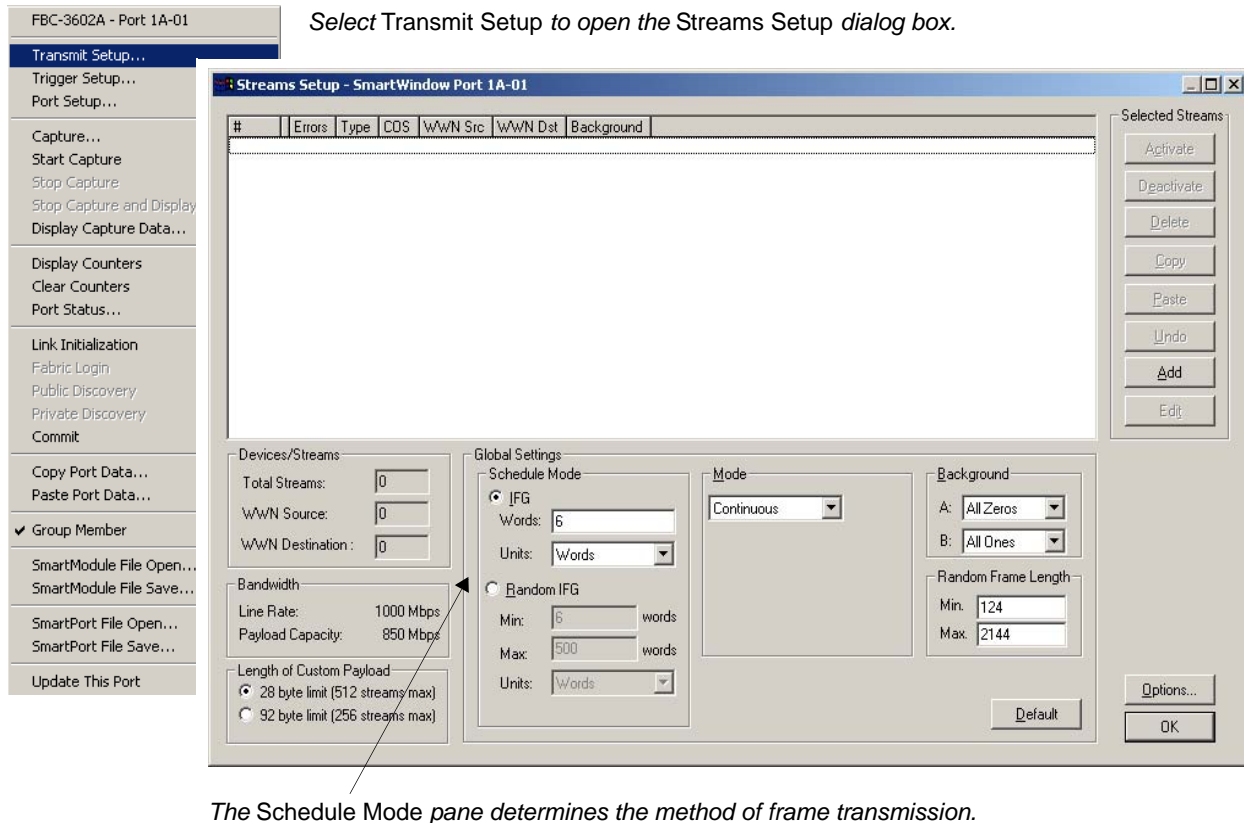

Figure 13-7. Select Transmit Setup
- 1 Click the port button and select **Transmit Setup** (Figure 13-7).